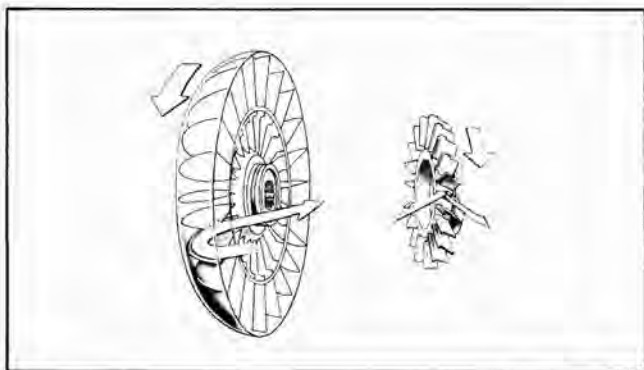

Fig. 7 Torus Operation—Step 2
- Step 2. After the oil has acted on the driven member the oil is forced to the torque multiplier (Fig. 7).